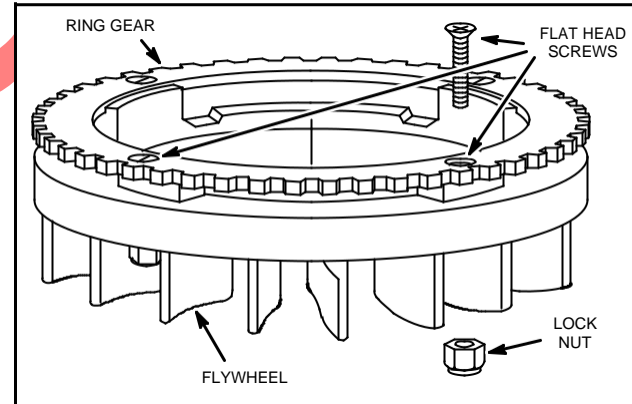

Fig. 690 – REPLACING RING GEAR
3. Clean holes after drilling, Fig. 690.